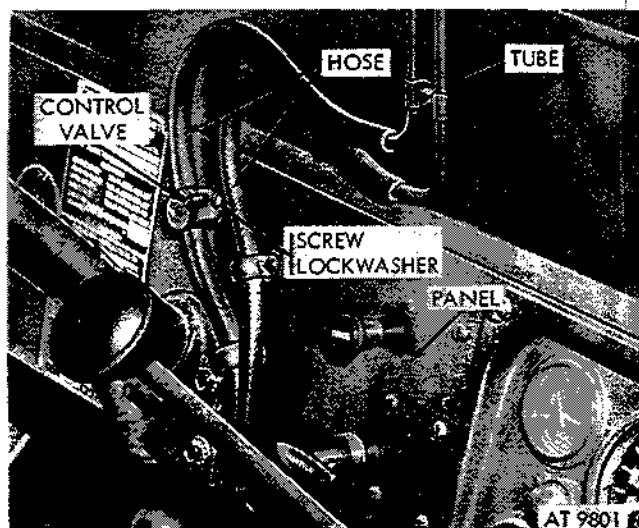

Figure 2-390. Remove windshield wiper control valve (M151, M151A1, M151A1C, and M718 vehicles).
a. *Removal.* Refer to figure 2-390.
(1) Pull rubber hoses from wiper control valve.
(2) Remove screws securing control valve.
(3) Remove control valve from dash panel.
- (1) Remove canvas top (TM 9-2320-218-10).
- (2) Disconnect vacuum hoses from vacuum tubes. Refer to figure 2-390 (M151, M151A1, M151A1C, and M718 vehicles only).
- (3) Disconnect electrical connector and remove cable clamp at windshield wiper motor.